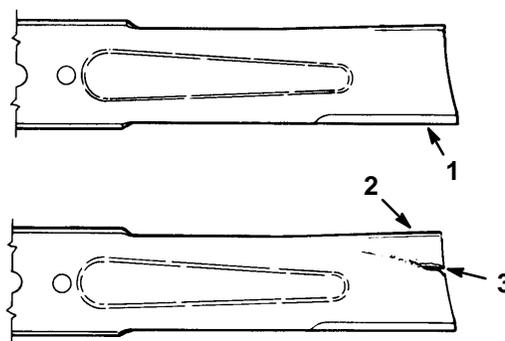

Figure 29
2. Inspect the cutting edges (Fig. 29). If the edges are not sharp or have nicks, remove the blade(s) and sharpen them; refer to Sharpening the Blade(s), page 20.
3. Inspect the blade(s), especially the curved area (Fig. 29). If you notice any damage, wear, or a slot forming in this area (Fig. 29), immediately install a new blade.